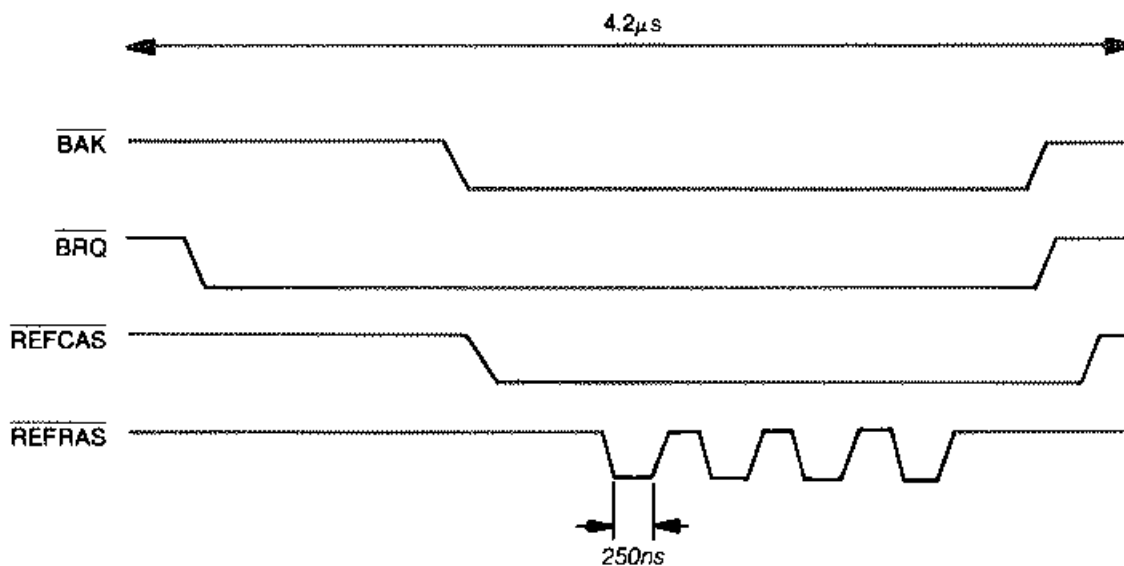

FIGURE 2-37. DRAM REFRESH TIMING CIRCUIT
2.3.2.8 DRAM Refresh Timing Generator Circuit (Figures 2-37 and 2-38)